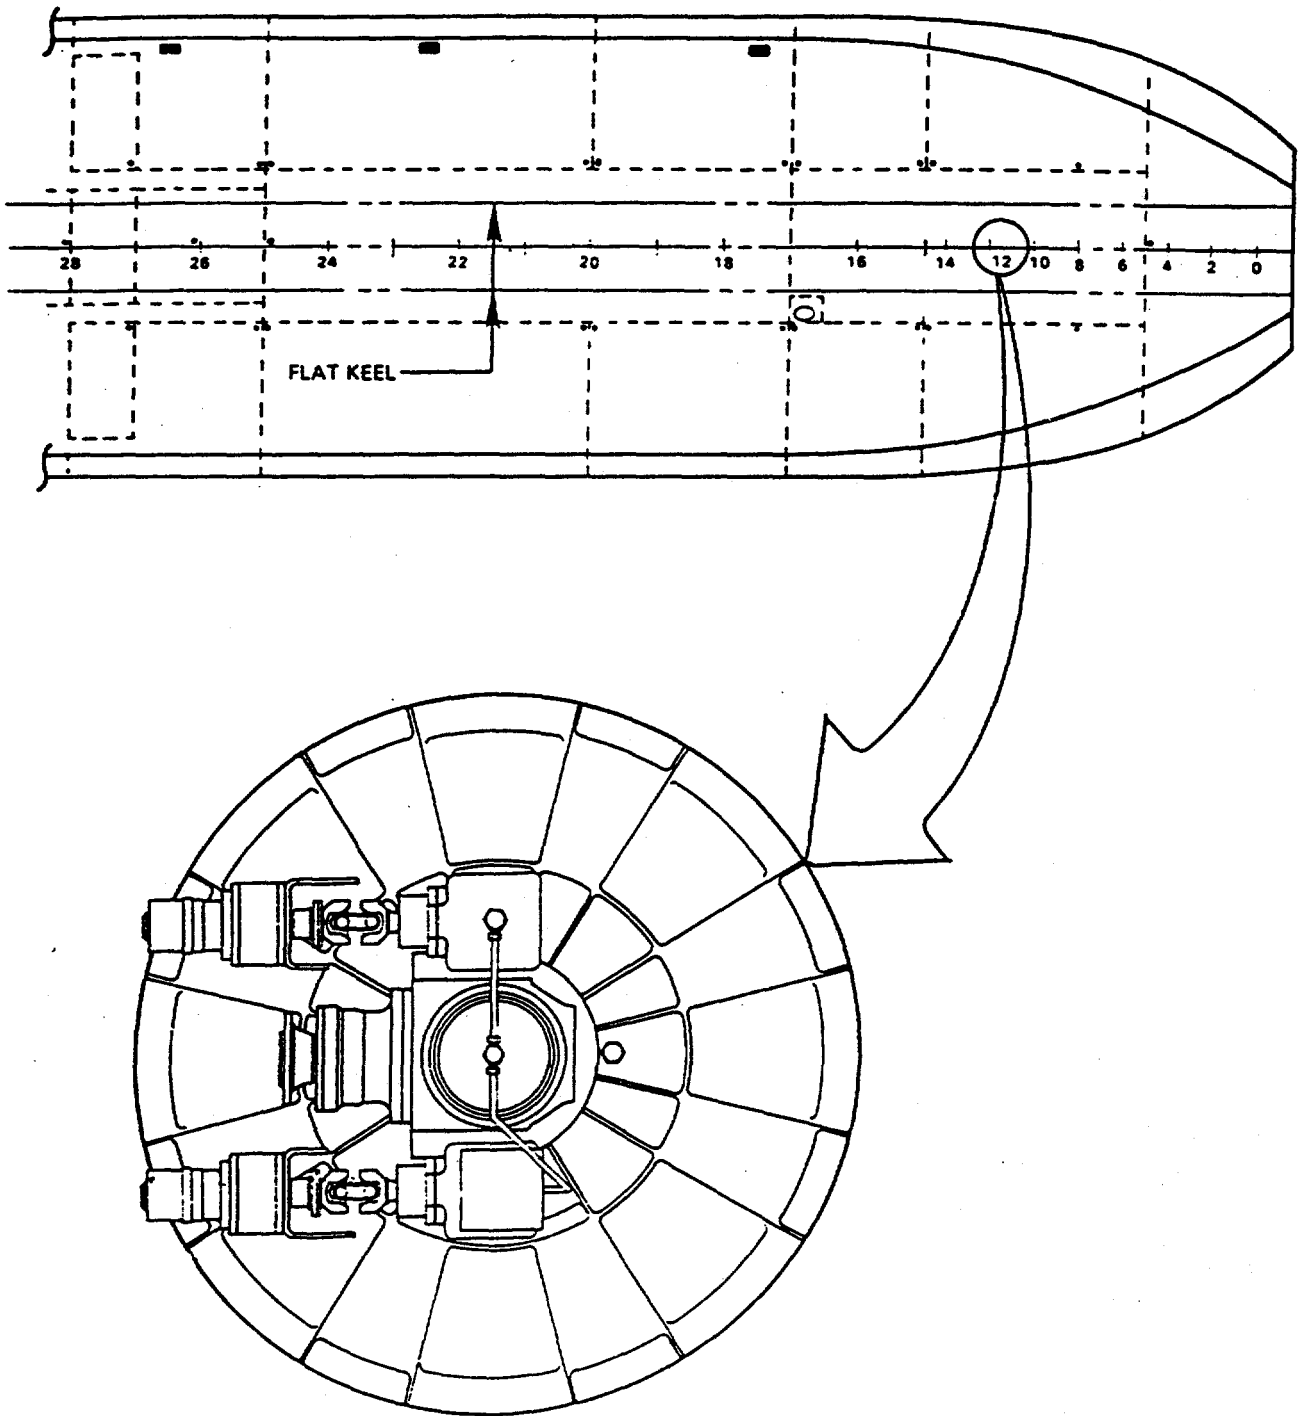

FIGURE 1-2. Installation Plan View.
1-8. **Location and Description of Major Components.** (FIGURES 1-2 and 1-3). The bowthruster waterjet is a high displacement centrifugal water pump. System machinery includes drive shafting to the pump plus steering machinery for the nozzle. This machinery is integrated into a compact unit installed in the bowthruster room. The well cover is the watertight closure and the structural support for both the external and internal components.
a. Hull Interface. The waterjet is installed over a cylindrical well (FIGURE 1-2) in the ship's bottom. This protects external components from grounding damage. A grid over the intake throat protects the impeller from trash ingestion. An upper flange forms the foundation for the waterjet.